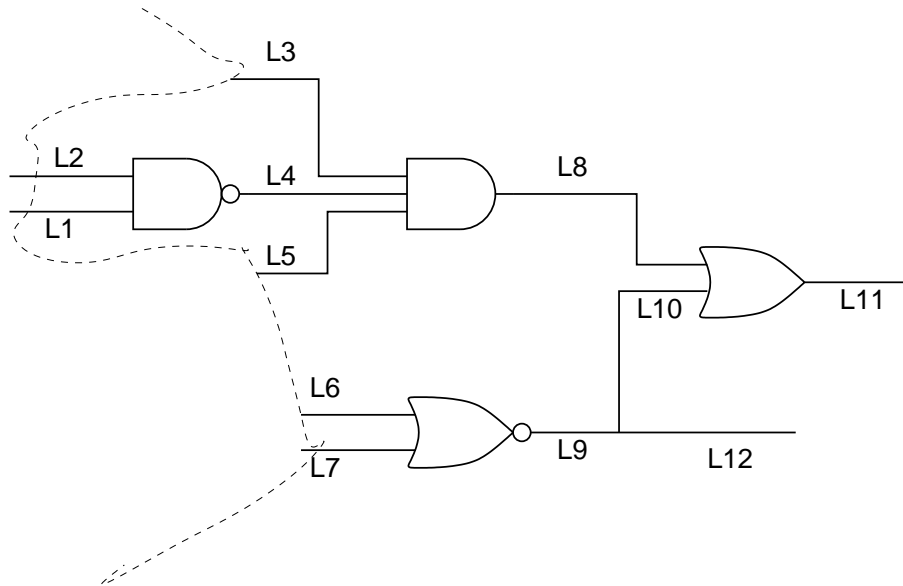

Figure 5: Circuit for Deductive Fault Simulation
- Part of a very large circuit is reproduced in Figure 5 below. The faults of interests are